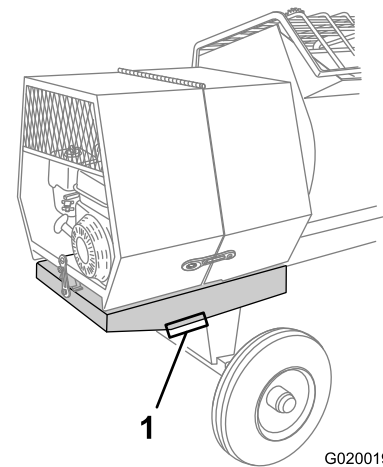

Figure 27
6. Use a jack stand at each support point on the rear frame extension (Figure 27).